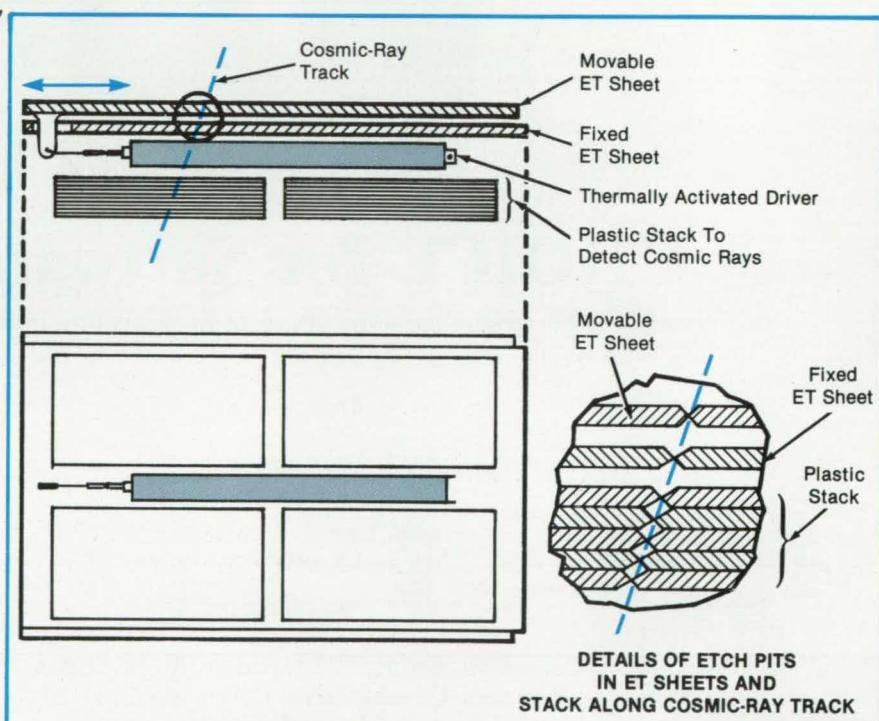

Figure 1. Actinide Cosmic Rays will be detected using the thermally activated driver as the heart of the event-thermometer (ET) system.
One requirement in this technique is that the temperature of the plastic stacks at the time a track is produced, a critical item of information in the analysis of etch pits, must be known to within 1°C . The precise TAD was developed to be the heart of the event thermometer (ET) system that will be used on the mission. The ET system is illustrated in Figure 1. Two plastic sheets